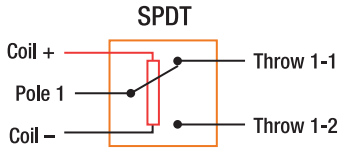

Figure 2-3. This SPDT relay has one pole, with two contacts (a three-way switch).
- **Single Pole, Double Throw (SPDT):** This type of relay uses one coil to operate one switch with three contacts (see Figure 2-3). The middle contact is for the load, the upper contact is for Voltage1, and the lower contact is for Voltage2 (or GND). This relay has five total contacts and is useful for switching one contact (Pole 1) between two different sources (Throw 1-1 and 1-2) —also called a three-way switch.